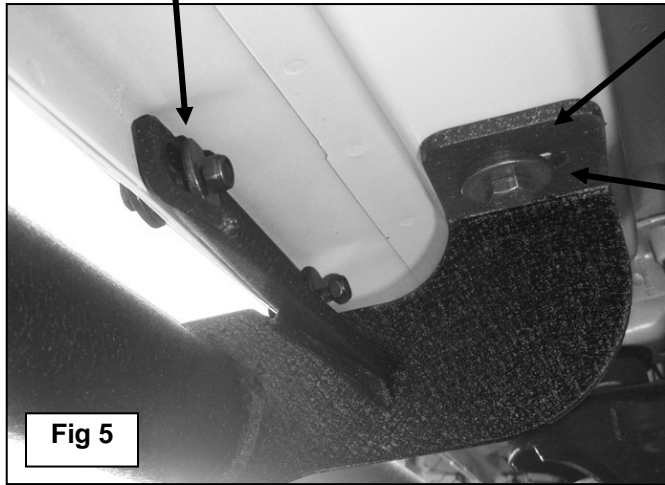

Fig 5
Bolt each top tab on the Rocker Guard to the Nut Plate with (1) 10mm x 35mm Hex Bolt, (1) 10mm Lock Washer and (1) 10mm Flat Washer, **(Figure 5)**. Repeat for all mounting locations.
- 3.** Line up the (3) vertical mounting plates on the Rocker Guard with the (6) factory holes in the pinch weld. Bolt the plates to the **back** of the pinch weld using the included (6) 6mm x 25mm Hex Bolts, (12) 6mm Flat Washers and (6) 6mm Nylon Lock Nuts, **(Figures 5 & 6)**. Leave loose at this time.